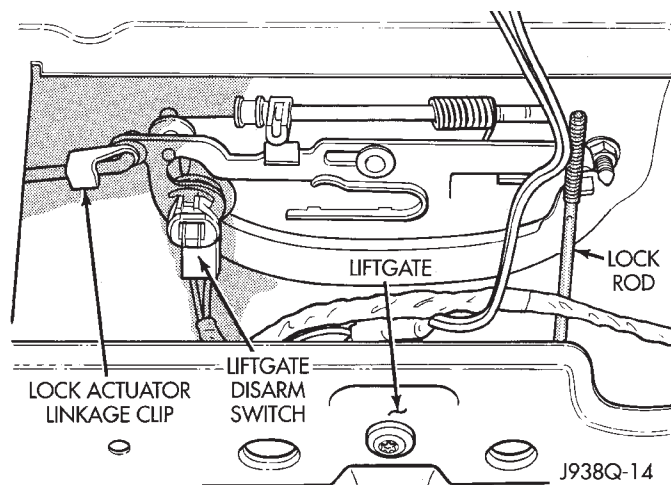

Fig. 9 Liftgate Lock Cylinder Switch Remove/Install
(4) Pry the liftgate lock cylinder switch off the back of the lock cylinder (Fig. 9).